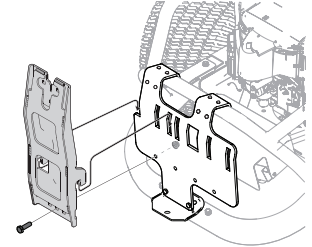

Figure 7
2. Install the vertical support (683-04519C) onto the mounting assembly on the tractor by hooking it over the mounting assembly as shown in Figure 7.
3. Secure the vertical support to the mounting assembly using a hex bolt (710-0376) and flange lock nut (712-04063) from hardware pack 689-01419. See Figure 7.